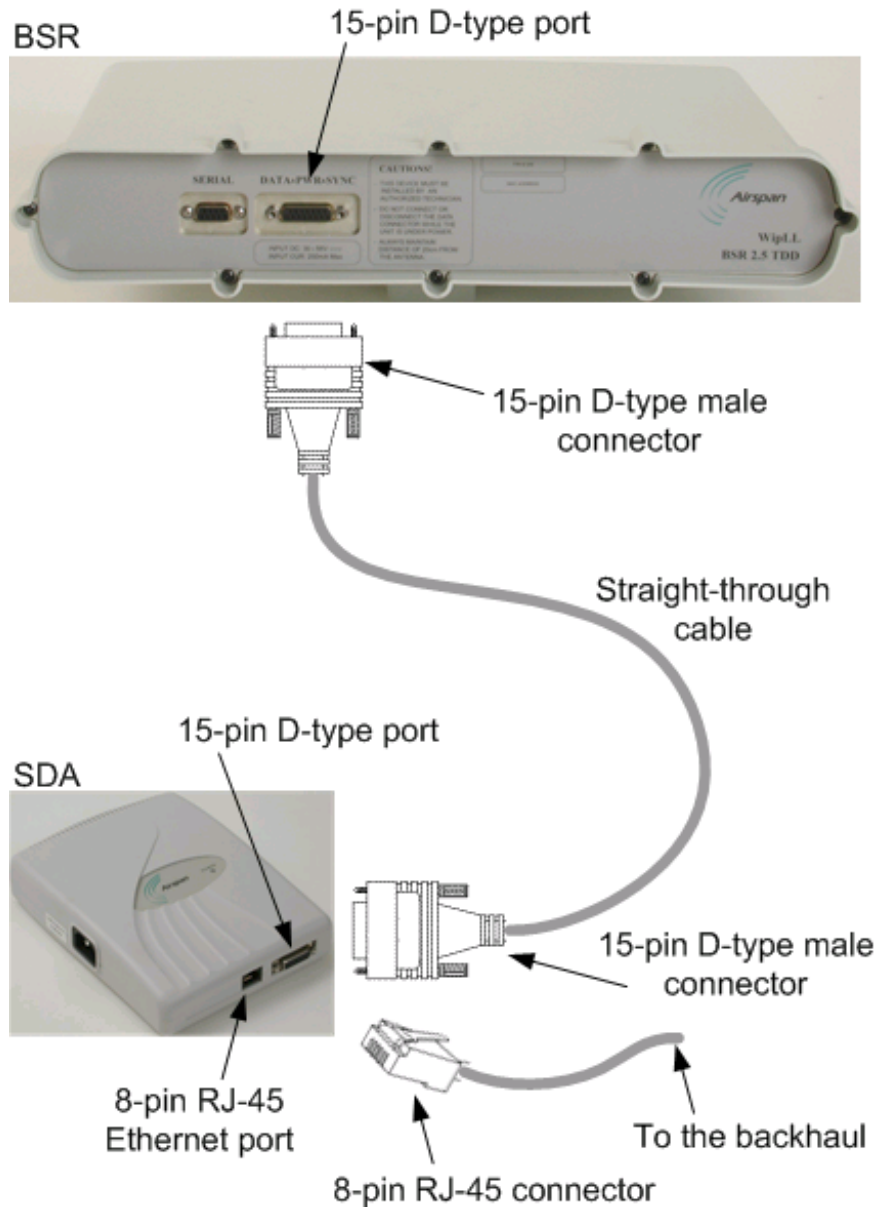

Figure 4-6: Connecting BSR to the backhaul through the SDA
1. Attach the **15-pin D-type** connector, at one end of the cable, to the BSR's 15-pin D-type port labeled **DATA POWER SYNC**, as displayed in Figure 4-6.
2. Attach the **15-pin D-type** connector, at the other end of the cable, to the SDA's **15-pin D-type** port, as displayed in Figure 4-6.